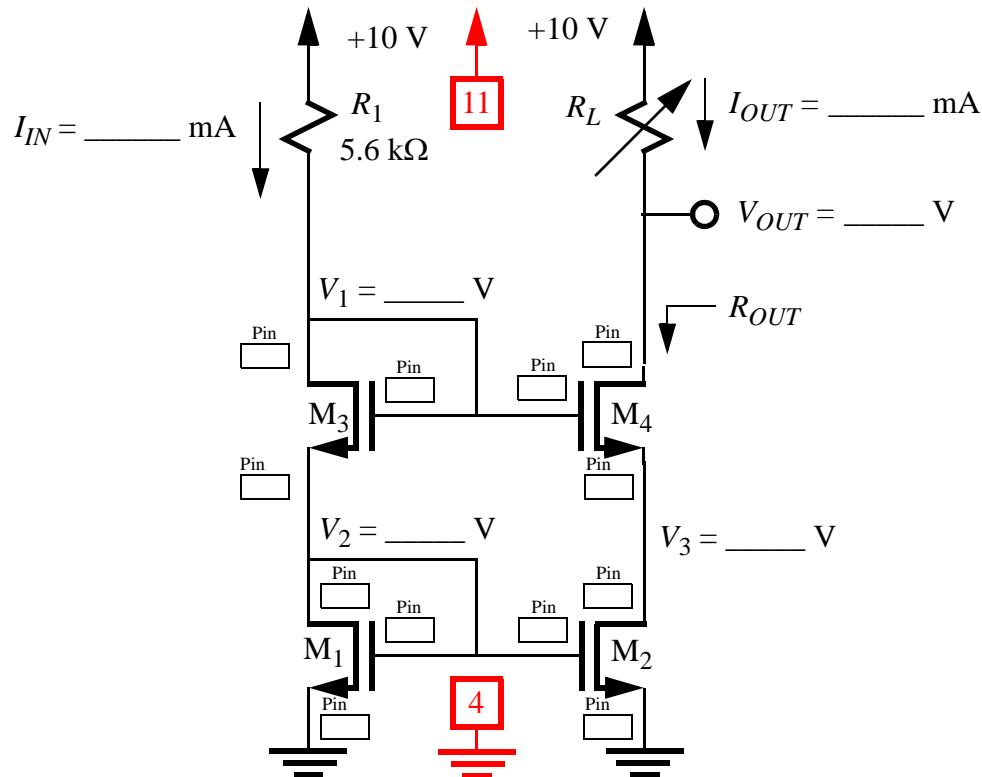

Figure 3) A cascode current mirror.
3. If  $R_L$ , in Fig. 3 equals  $R_1$ :
- c) Determine pin numbers for the NMOS devices and enter them on the schematic of Fig. 3.